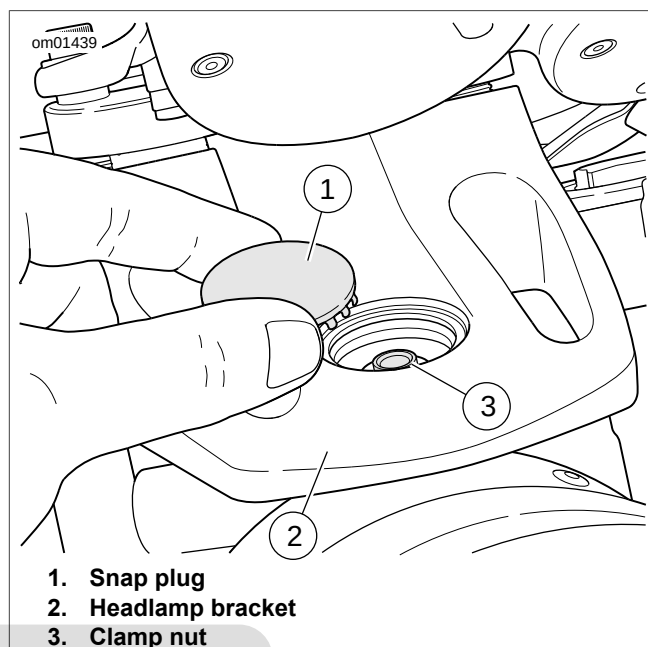

**Figure 1-87. Headlamp Adjustment: XL 1200X/C/C ANV/CP/CA/CB/V**
- a. See Figure 1-87. Loosen the horizontal adjustment screw (3).
- a. Loosen the locknut (1) for the vertical adjustment bolt.